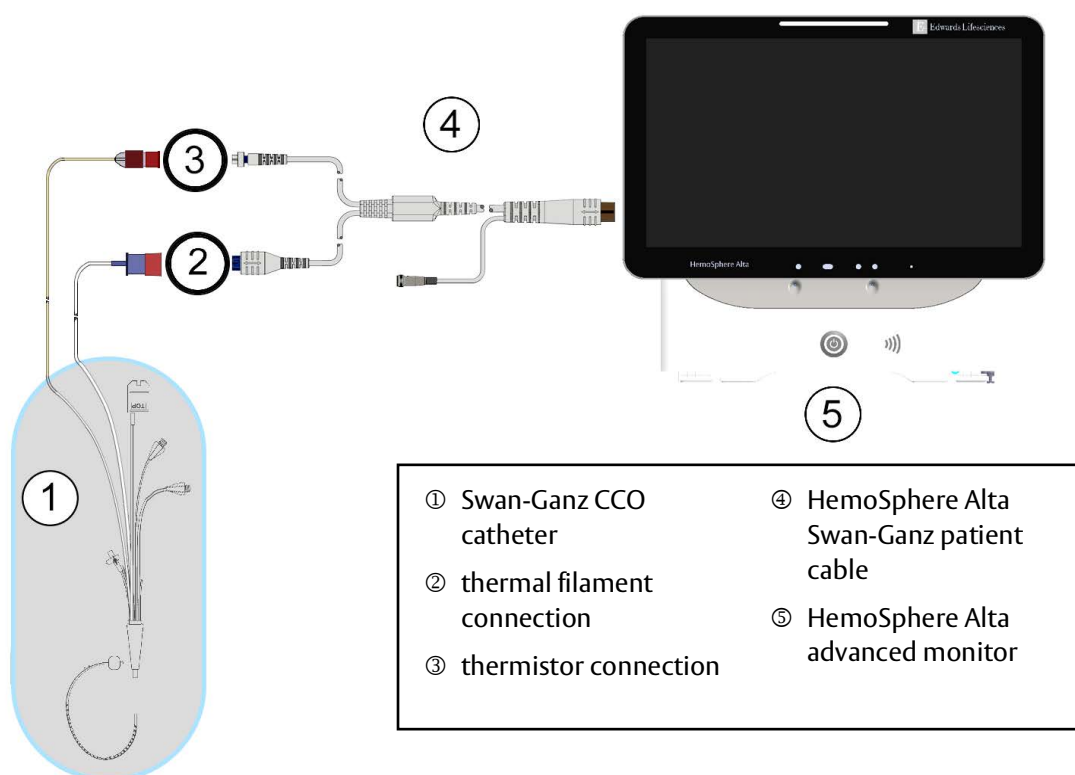

Figure 8-2 CO connection overview
- 2 Attach the catheter end of the patient cable to the thermistor and thermal filament connectors on the Swan-Ganz CCO catheter. These connections are emphasized as numbers ② and ③ in Figure 8-2 on page 140.